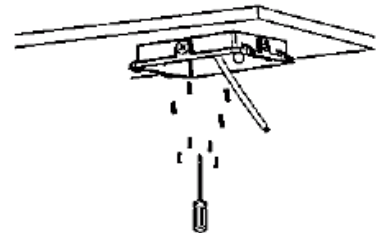

Figure 2-4
4. Secure the driver box cover on the ceiling; Figure 2-4